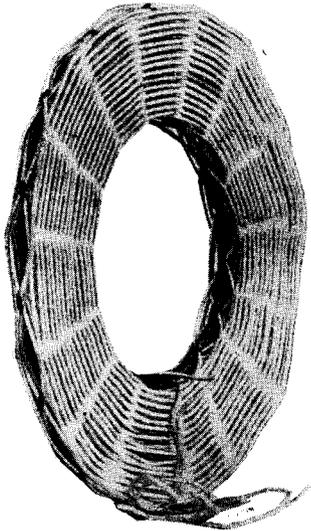

Fig. 7. A simple basket coil.
A. A simple pancake coil is illustrated in Fig. 7. It is wound by winding the wire in a suitable way on a former. The former consists of a cylinder of metal or wood, with an odd number of pegs arranged around the circumference in a single row. In the simplest construction the wire is wound round the back of one peg, the front of the next, the back of the next, and so on.